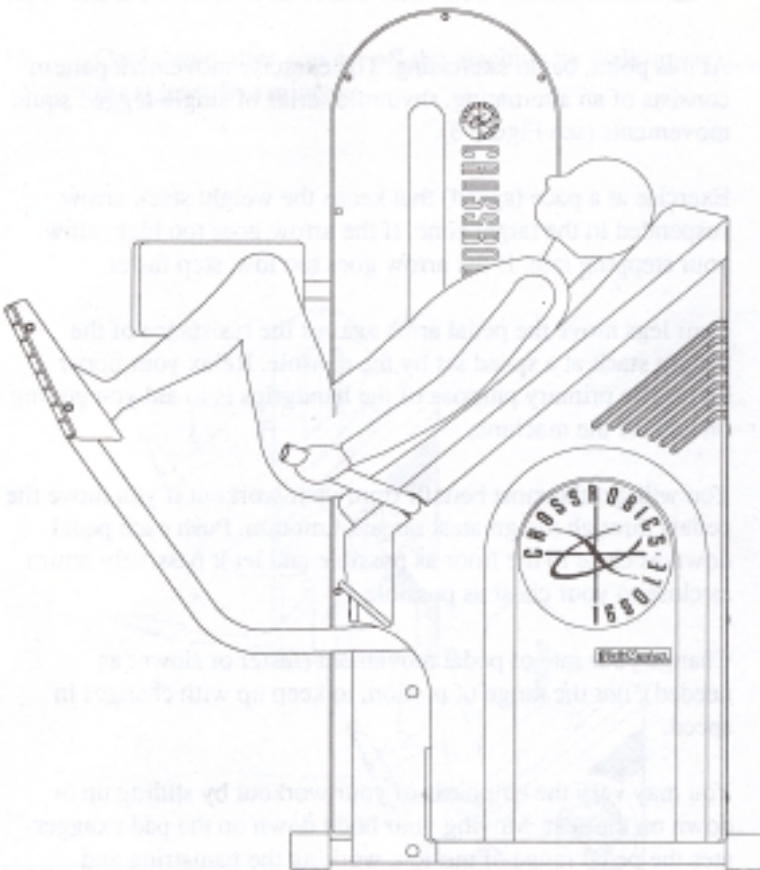

Figure 2: Exercise Starting Position
9. Grasp both handles with your palms facing inwards. Support your weight with your arms and lean back on the seat. Bend your legs and swing your feet up onto the pedals (see Figure 2).